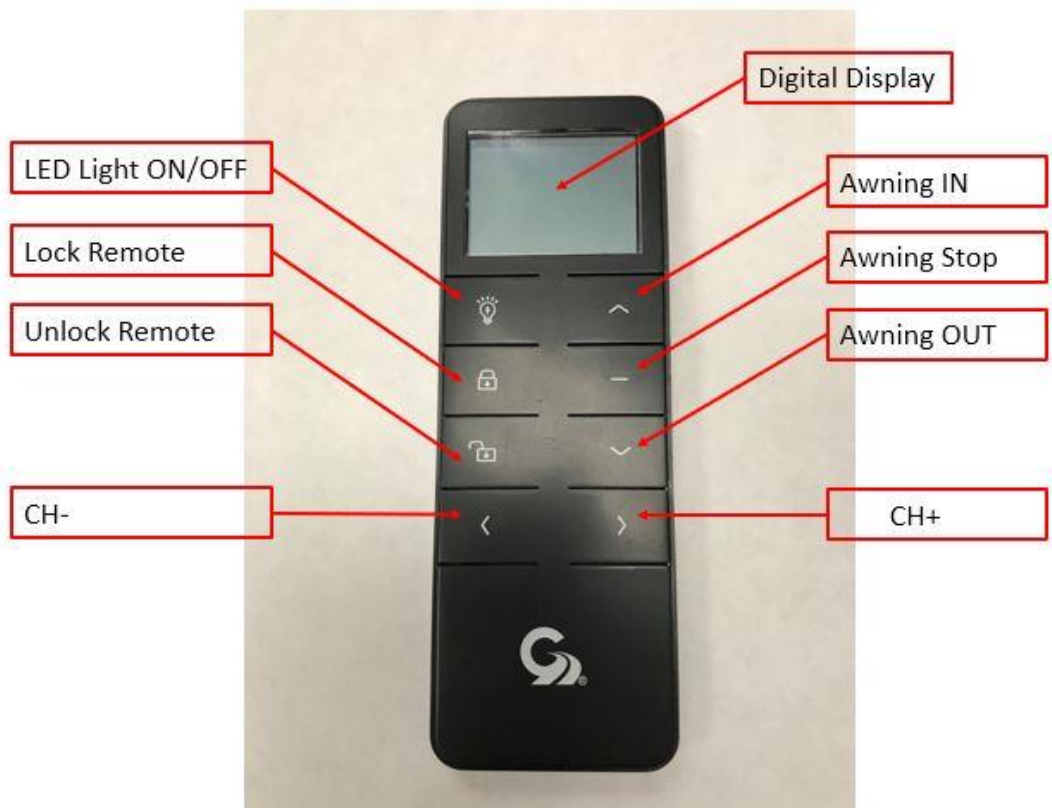

Fig.4
- Press the **IN** button (Fig.4) on the REMOTE DEVICE being programmed. The Green LED on the motor controller will extinguish.